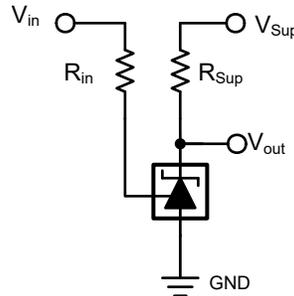
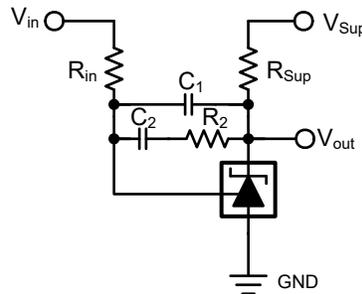
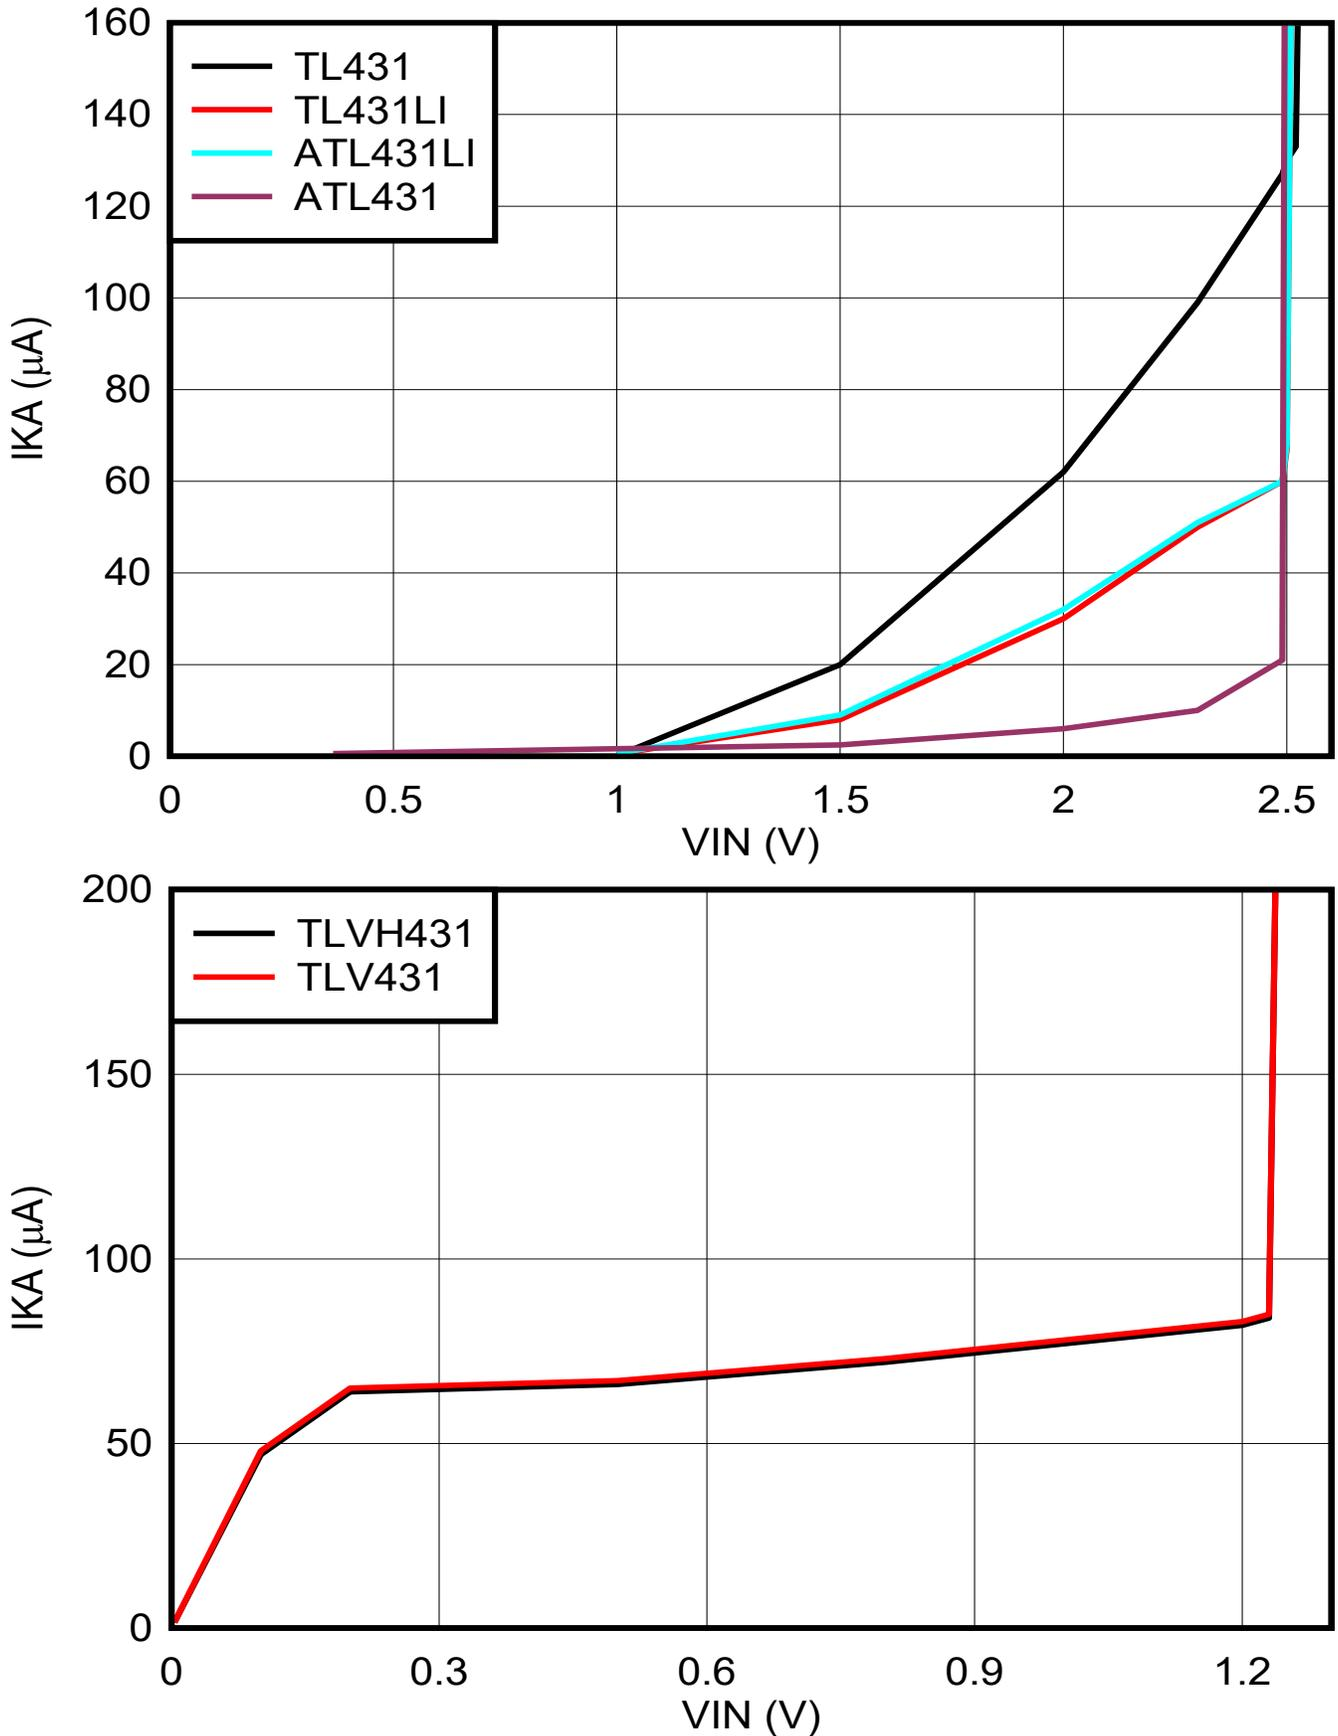

Figure 2-1. Basic Comparator Mode
Figure 2-2. Comparator with Type 2 Compensation
Figure 2-3. Vin Vs IKA for Different 431 Devices
Shunt regulators of the 431 family (TL431, TL431LI, ATL431 and ATL431LI) behave as a voltage comparator when operated in open loop. Voltage is sensed at the reference pin and output is taken from the cathode pin as shown in Figure 2-1. A shunt voltage reference is commonly used in the feedback loop of the PWM controllers in switching power supplies. Shunt regulators are very popular for its low cost and built-in precise reference. It acts as an error amplifier in the feedback loop with the optocoupler. It senses the output voltage and trigger the optocoupler for the PWM controller feedback. This application note explains the comparator mode operation and discusses the key design considerations for the 431 family in the comparator mode.
The 431 family of TI shunt regulators are used in the comparator mode by opening the DC feedback path, when there is no DC current from cathode to reference pin. Below are examples of circuits for shunt regulators in the comparator mode. Figure 2-1 shows the simple comparator circuit and Figure 2-2 shows the typical type II compensation which is used in isolated power supply designs with optocoupler feedback. This section discusses the specs of the family 431 in comparator mode.
- **0 < VIN < VIT:** The reference pin starts taking a few nA current as soon as the input voltage (V_{in}) goes above 0 V and this will establish I_{KA} in the range of few μA which will be much lower compared to I_{KAmin} of the device. Figure 2-1 circuit is tested with $R_{in} = 100 \text{ k}\Omega$, $R_{sup} = 10 \text{ k}\Omega$ and I_{KA} vs V_{in} . Figure 2-3 shows the typical variation of I_{KA} when $V_{IN} < V_{IT}$. This plays an important role in deciding the upper limit of R_{sup} for V_{OH} .
This section discusses the design parameters consideration for components (resistor and capacitor) selection as shown in Figure 2-1